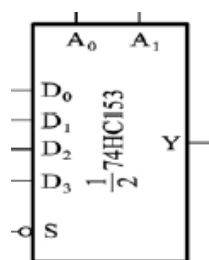

Fig. 4
4. 74HC153 has two identical 4-input multiplexers. Information on the data inputs of each multiplexer is selected by the address on the A_1 and A_0 inputs, and is presented on the Y outputs. For one multiplexer within 74HC153, denote D_0 to D_3 as the data-inputs, \bar{S} the output enable input, and Y the output. What is the logic relationship between output and inputs? Please implement the following logic with one half of 74HC153 (see Fig. 4) and a NOT gate. (12 points)